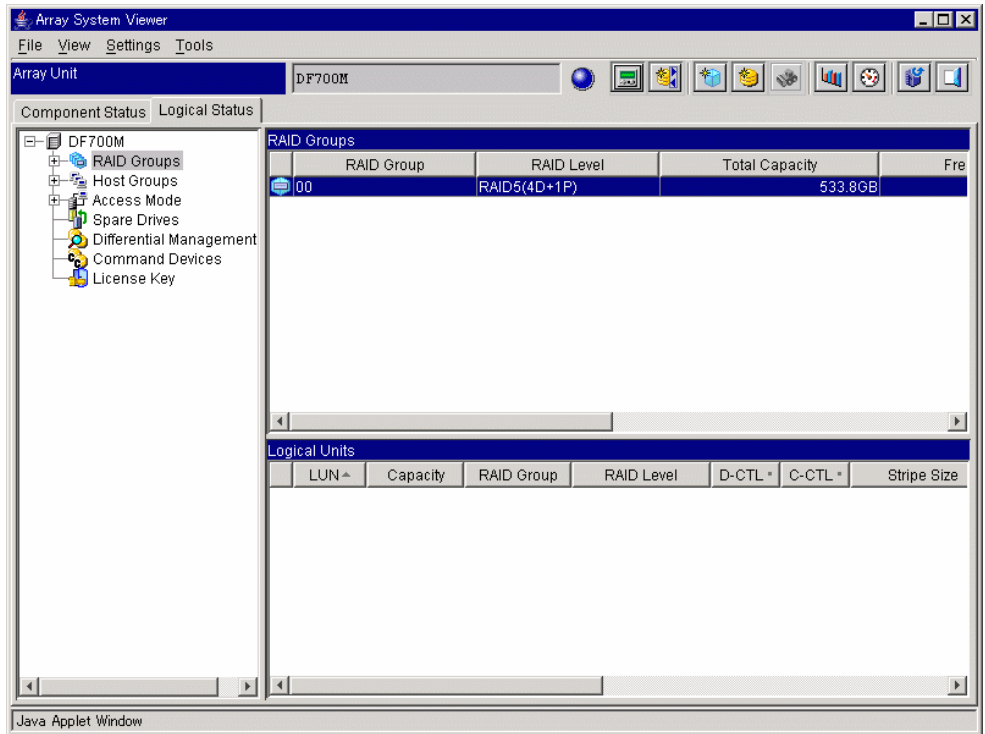

Figure 5.5 Array System Viewer - RAID Group
1. Click the **Logical Status** tab on the **Array Unit** screen. See Figure 5.5.